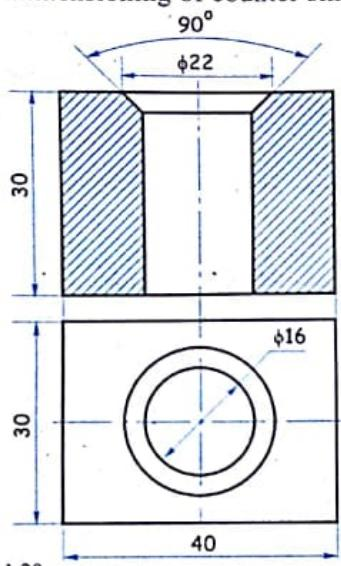

FIG.1.20
12. Dimensioning of counter sink. Refer figure 1.20.